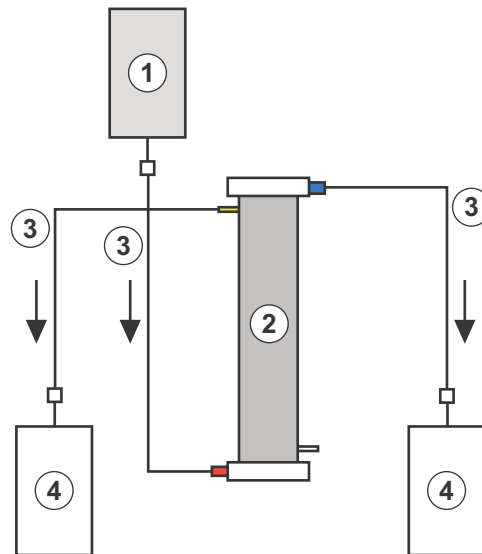

Fig. 9-8 Set-up for plasma filter rinsing
Materials: See key to Fig. 9-8, 1.5 ml heparin solution (5000 IU/ml)
3. Attach the remaining connection lines and the collection bags as shown in Fig. 9-8 with the plasma and blood side of the filter and clamp the line on the plasma side.